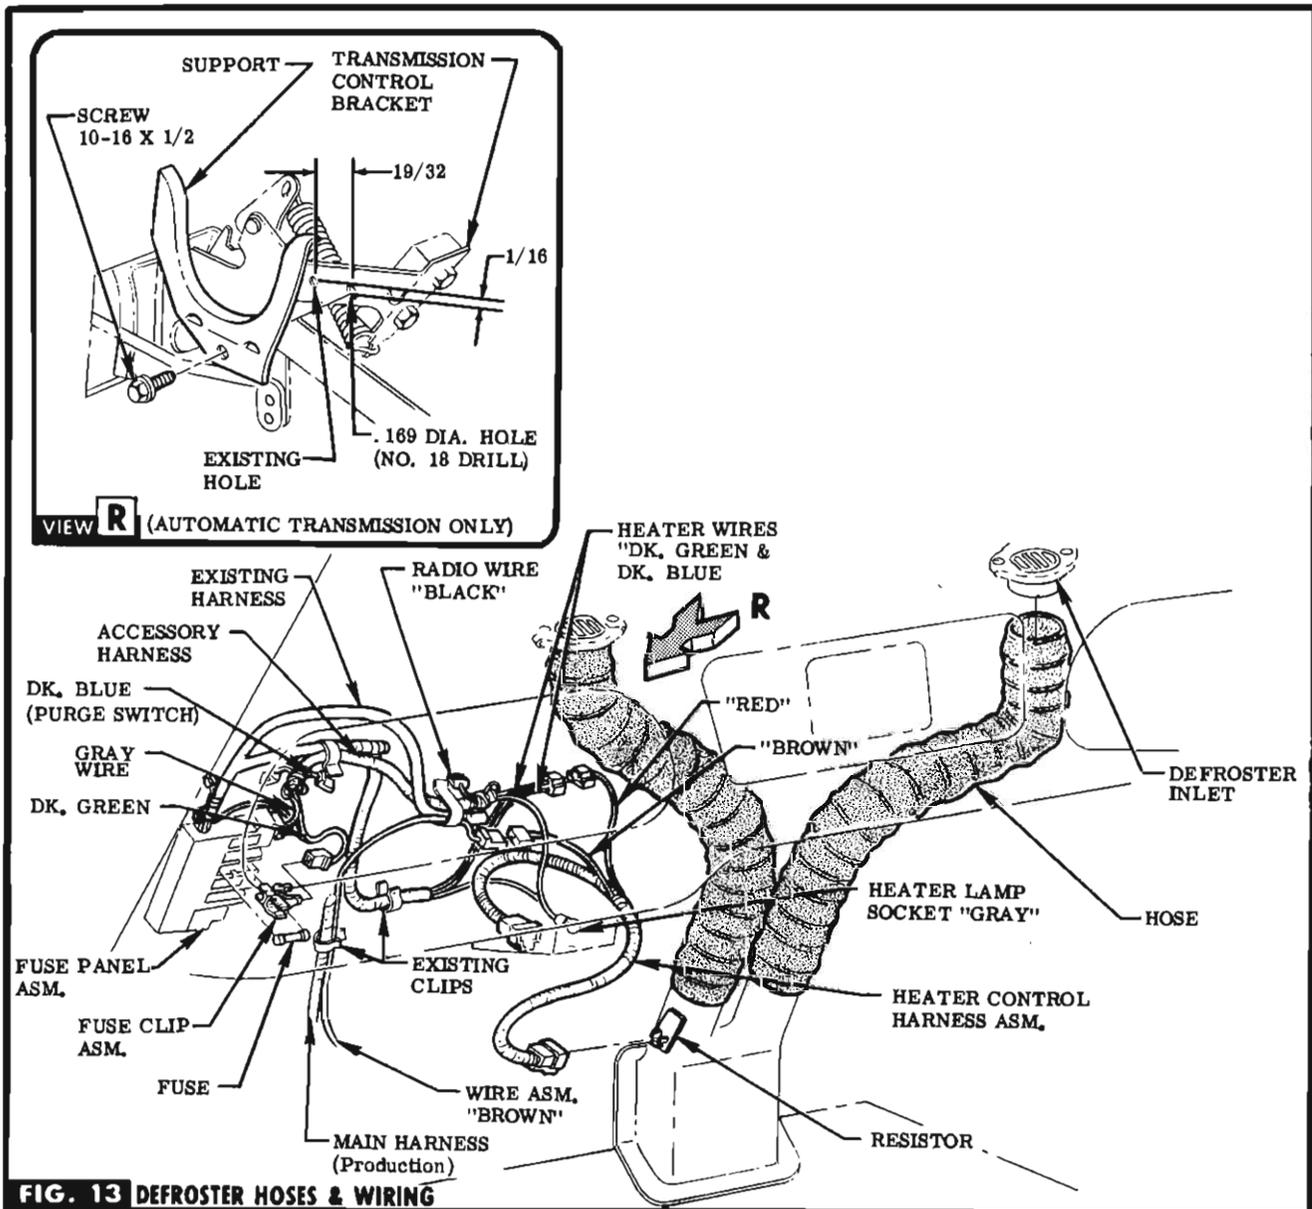

FIG. 13 DEFROSTER HOSES & WIRING
STEP 68 REMOVE INSTRUMENT PANEL COMPARTMENT. INSTALL DEFROSTER HOSES ON INLETS & DISTRIBUTOR ASM. SEE FIG. 13. REPLACE INSTRUMENT PANEL COMPARTMENT. **NOTE** If automatic transmission exists route L, H, hoses over hose support.
STEP 69 INSTALL FUSE CLIP INTO RECEPTACLE MARKED "HEATER B. U. LPS." ON FUSE PANEL. SEE FIG. 13.
STEP 70 UNTAPE DK. GREEN WIRE CONNECTOR FROM EXISTING HARNESS & PLUG INTO FUSE CLIP PREVIOUSLY INSTALLED. SEE FIG. 13.
STEP 71 IF ACCESSORY HARNESS HAS BEEN INSTALLED. UNTAPE & PLUG GRAY LEAD CONNECTOR INTO RECEPTACLE IN FUSE PANEL MARKED "PANEL LPS." SEE FIG. 13.
STEP 72 PLUG LOOSE END OF HEATER CONTROL HARNESS ASM. INTO RESISTOR ON DISTRIBUTOR. SEE FIG. 13.
STEP 73 CONNECT RED LEAD FROM HEATER HARNESS WITH DK. BLUE & GREEN WIRE CONNECTOR (FROM EXISTING OR ACCESSORY HARNESS). ROUTE BROWN LEAD (FROM GROMMET IN TOE PANEL) ALONG EXISTING HARNESS & CONNECT TO BROWN LEAD OF HEATER HARNESS. SEE FIG. 13.
STEP 74 INSERT FUSE INTO FUSE CLIP ASM. PREVIOUSLY INSTALLED. SEE FIG. 13.